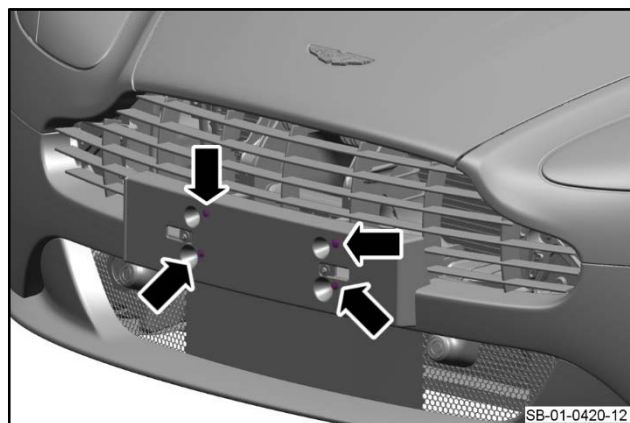

Figure 12
12. Install the five screws that attach the license plate plinth to the bolster plate (refer to Figure 12).